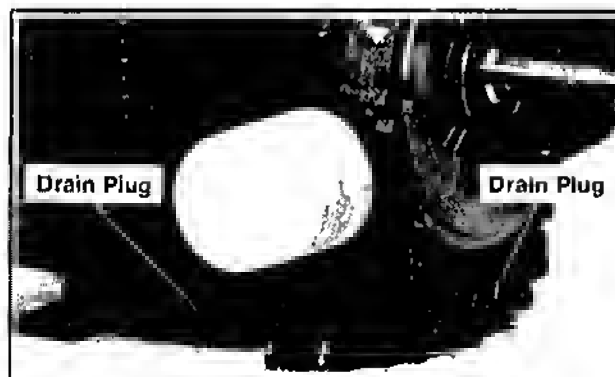

Figure 3-2. Oil Drain Plug Location.
1. Remove the oil drain plug and dipstick. Refer to Figure 3-2. Tilt the engine slightly towards the drain hole to obtain better drainage.